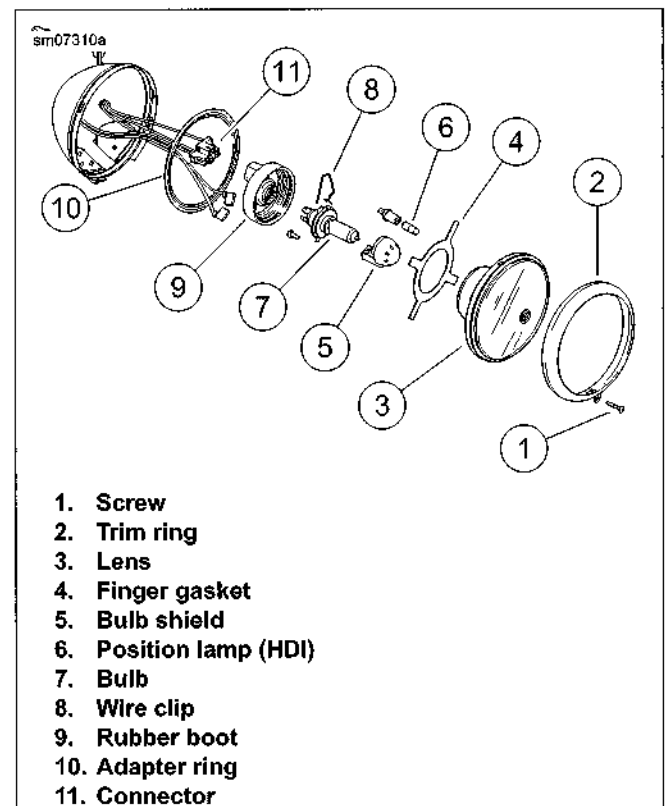

Figure 6-33. Headlamp Assembly: XL 1200V/C/CP/CA/CB
- b. **XL 1200V/C/CP/CA/CB:** See Figure 6-33. Remove the screw (1) and the trim ring.
2. Hold the lens and compress the release tabs of the bulb connector (11) to disconnect from spade terminals.
3. Pull the rubber boot (9) from back of the lens.
4. Compress the ends of the retaining clip (8) to release from the retaining tabs and pivot retaining clip back.
5. Remove and replace the bulb (7).